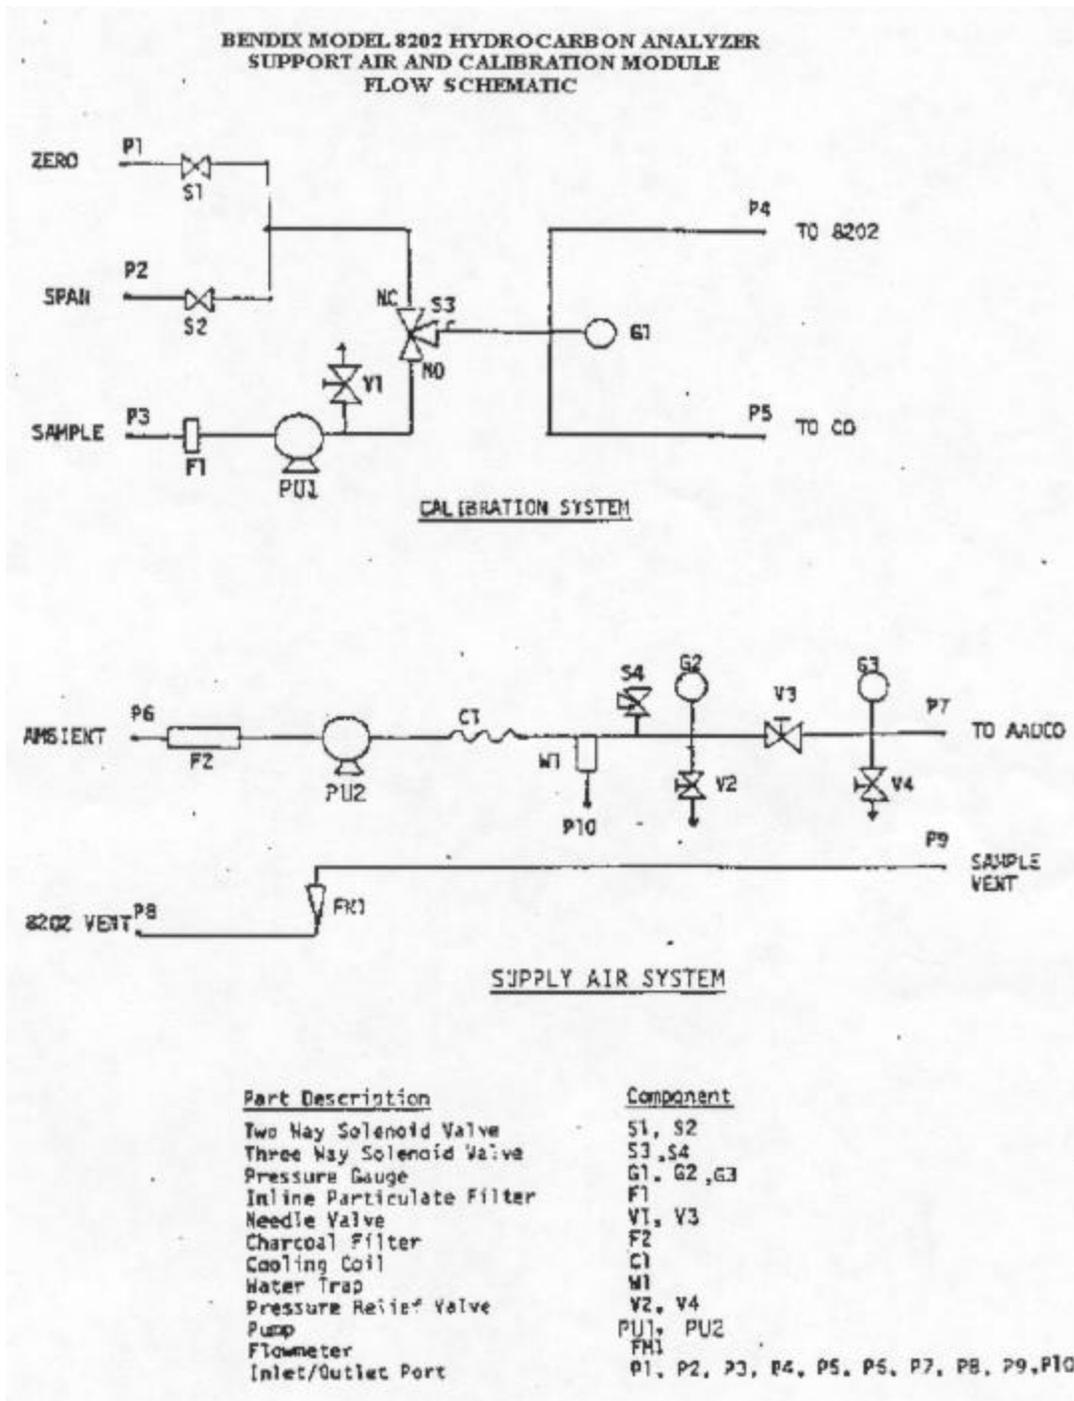
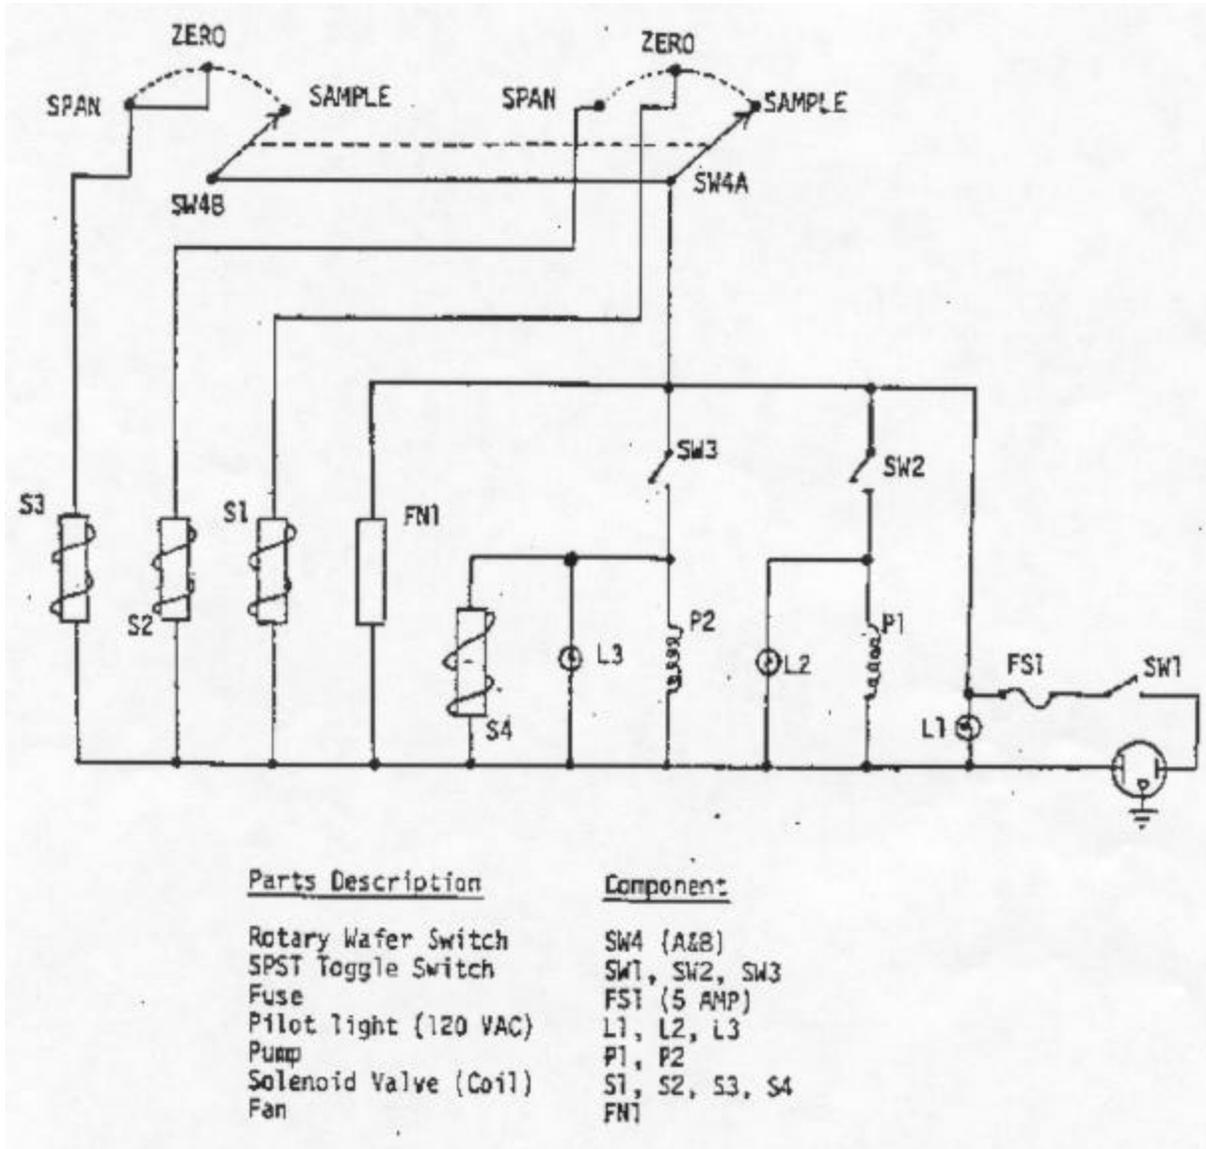

Figure J.4.0.1
Figure J.4.0.2
The flow diagram of the supply air system is shown in Figure J.4.0.1. Ambient air is drawn in through the charcoal filter (F2), which removes contaminants which would damage the methane reactor in the Aadco. The air is then compressed by pump (PU2), cooled in the cooling coil (C1), and passed through the water trap to remove excess water. The air then passes solenoid valve (S4) which releases back pressure on the pump in case of power failure. The air then passes by relief valve (V2), which controls system high pressure to 50 to 60 psig for drying of the air to less than 4°C dewpoint. The system pressure is then dropped across valve V3 and regulated to approximately 30 psig by relief valve V4.
The flow diagram of the calibration system is shown in Figure J.4.0.1 and the wiring diagram is shown in Figure J.4.0.2. The monitoring station sample manifold is connected to the "SAMPLE" 1/4" swagelok bulkhead fitting on the rear of the support module by 1/4" teflon tubing.
- e. See the support module's inlet pressure to 50 psig on the "INPUT" gauge (G2), using the High Pressure Relief valve (V2) (see Figure J.4.0.1).
- c. Set the sample pressure by adjusting the by-pass needle valve (V1) marked "PRESSURE ADJUST" on the front of the support module so the "SAMPLE PRESSURE" pressure gauge (G1) reads 9 ± 1 psig (see Figure J.4.0.1).